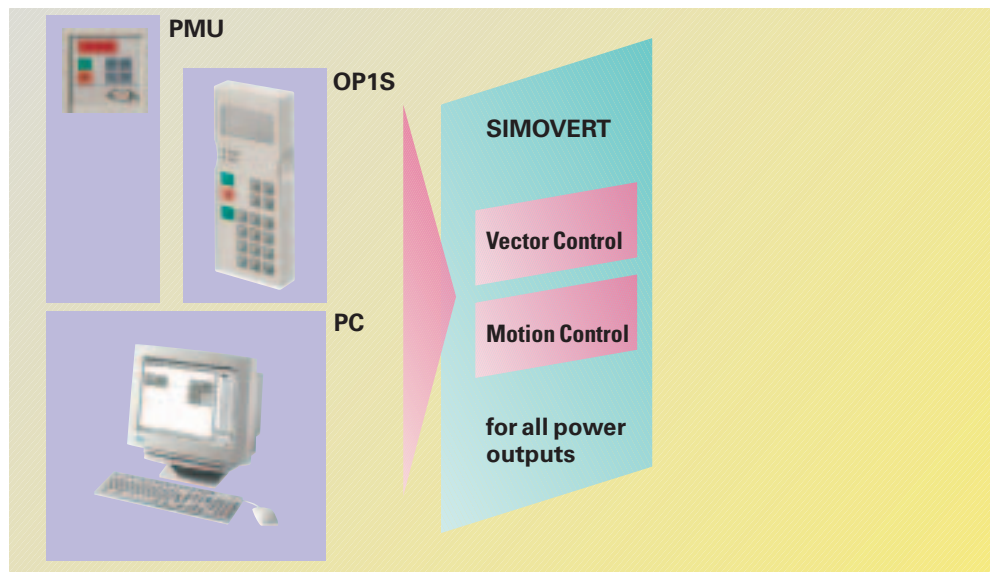

Fig. 2/3
- the communication boards and/or the technology boards (options), see Fig. 2/4.